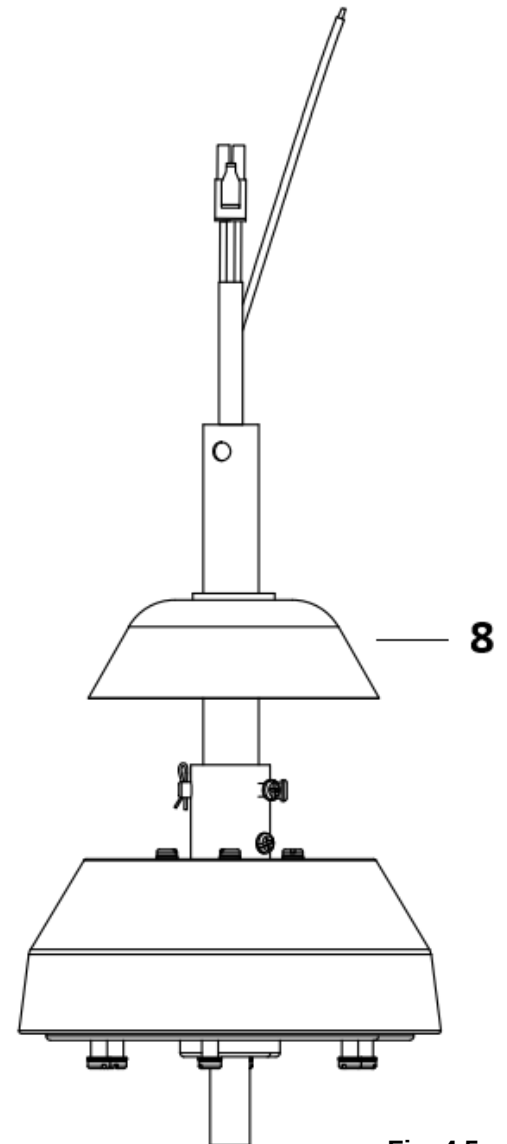

Fig. 4.5
Insert the coupling housing (8) onto the down rod (6) to cover the down rod and coupling. (Fig. 4.5)